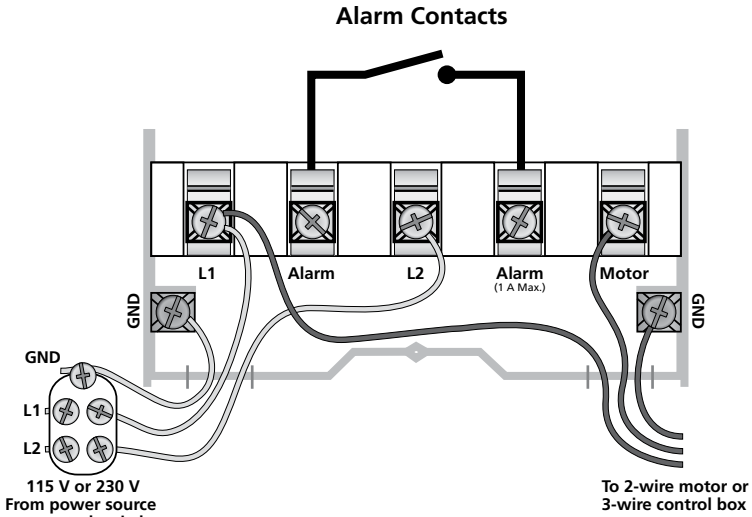

Figure 3: Wiring Connections
6. Connect wires to the Pumptec as shown in Figure 3. Power is connected the same way regardless of the line voltage.